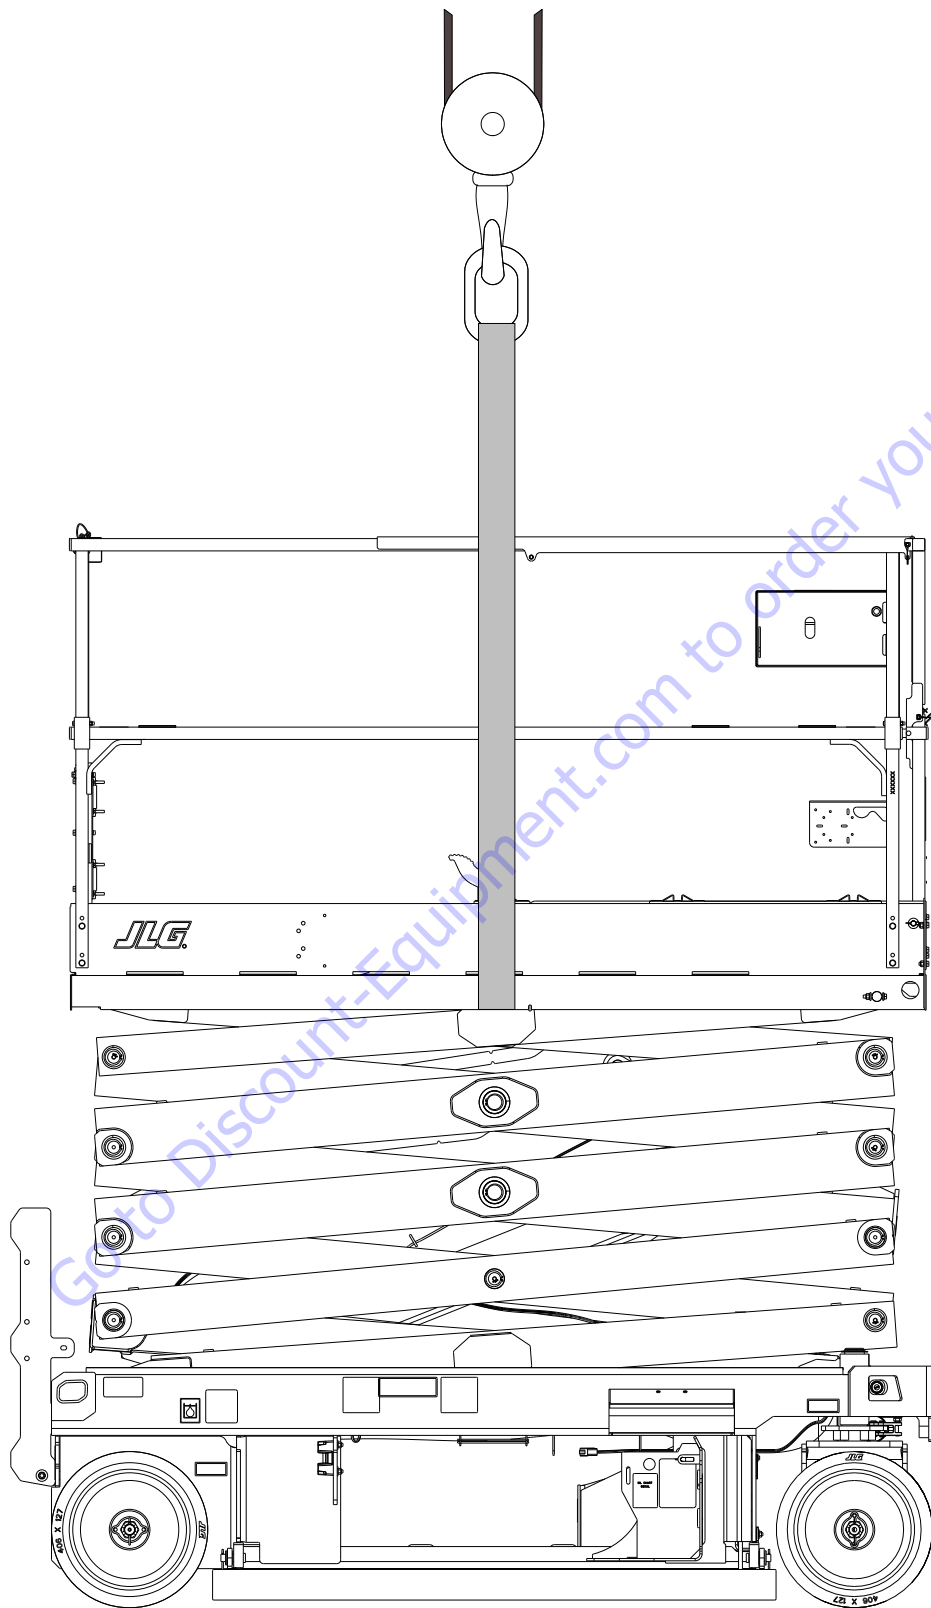

Figure 3-28. Arms and Platform Positioning with Overhead Support
The arm stack can be supported by using an overhead crane, (See Figure 3-28.). If an overhead crane is not available the stack may also be lifted by using a fork-truck using the following instructions:
1. Support the platform using an overhead crane with straps capable of lifting at least 500 lb (227 kg) (See Figure 3-28.).